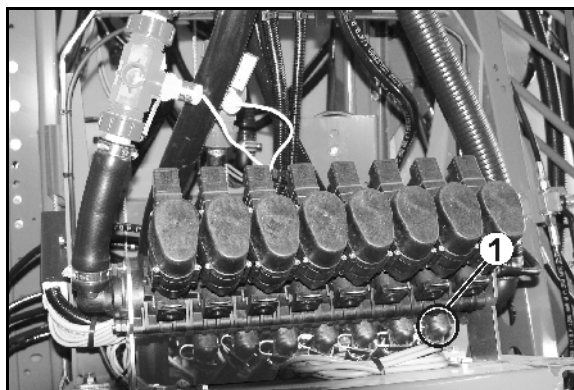

Fig. 155
1. Remove all spray lines from the part width section valves (Fig. 155/1).